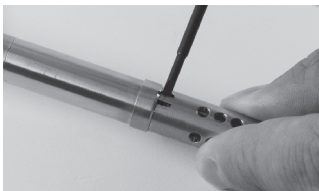

Fig. 28 Loosen the lock of the filter cap
2. Loosen the lock of the filter cap with an appropriate tool (see Fig. 28 Loosen the lock of the filter cap).